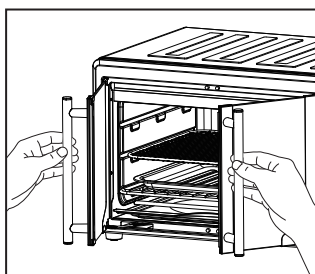

Figure 2
2. Pull open the oven doors carefully. (See Figure 2).